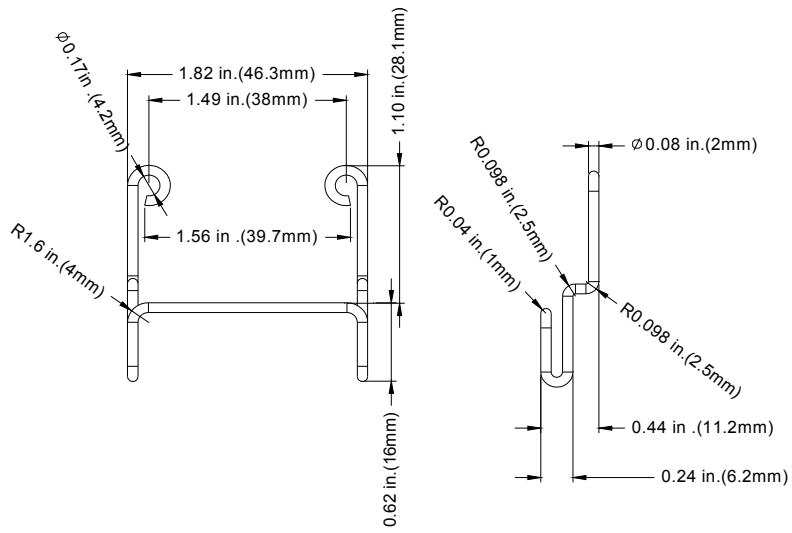

Fig. 3. Outdoor Sensor Mounting Clip dimensions in inches. (mm).
3. EWT-3102/EWT-3103 Outdoor Sensor Mounting Clip: see Fig 3.